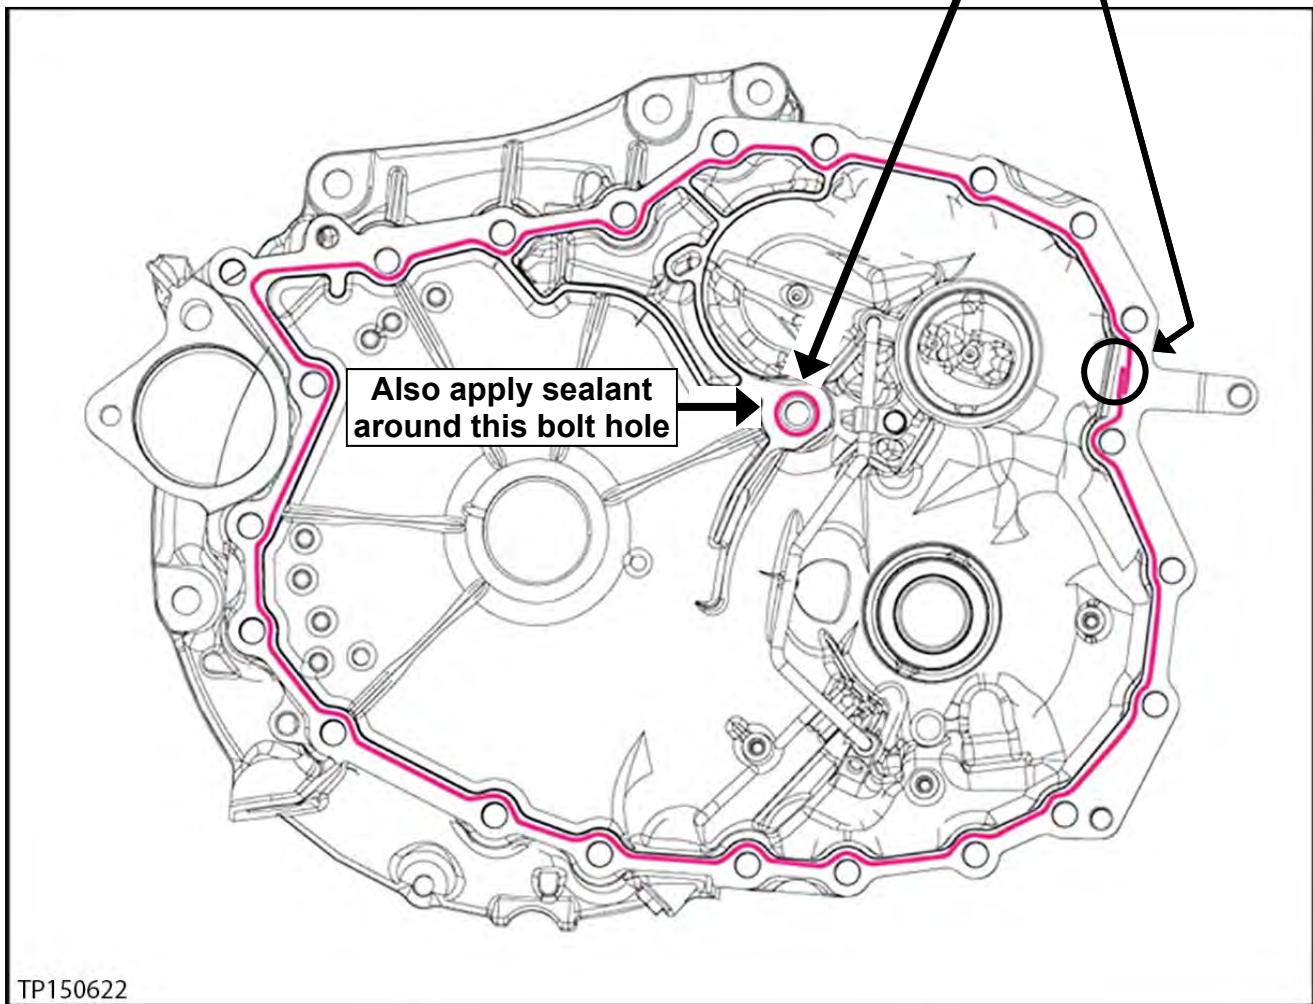

Figure 159
116. Apply one continuous, 2.0 mm (**0.8 inches**) diameter, bead (Figure 159) of pink colored Loctite 5460 Sealant (see **PARTS INFORMATION** on page 95).
- Before sealant application, make sure the mating surfaces are clean from oil, dirt, old sealant, etc. (Figure 159).